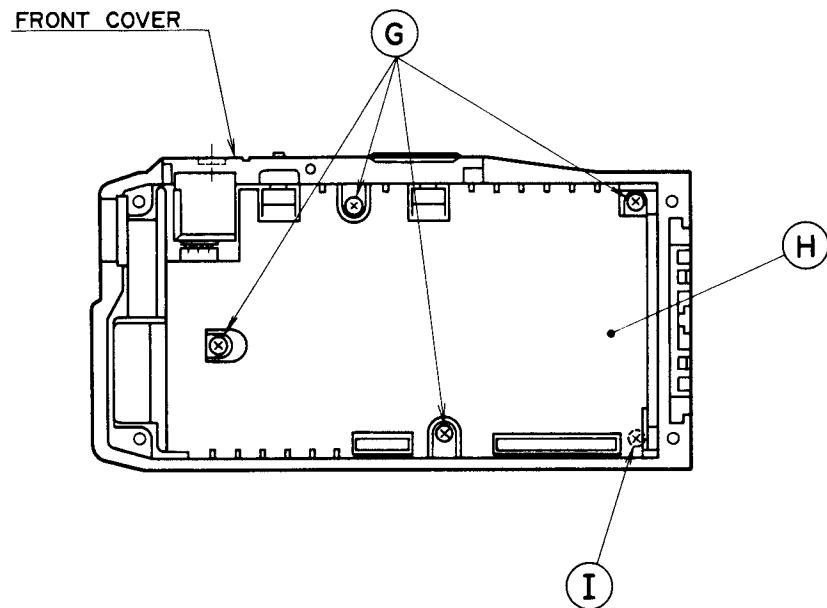

FIGURE 18 - DISASSEMBLY STEP 4
**To remove the Controller Board,** use the Phillips-head screwdriver and remove the five (5) screws at **(G)** from the controller board and remove the shield at **(H)**. Remove one (1) screw at **(I)** (See Figure 18).